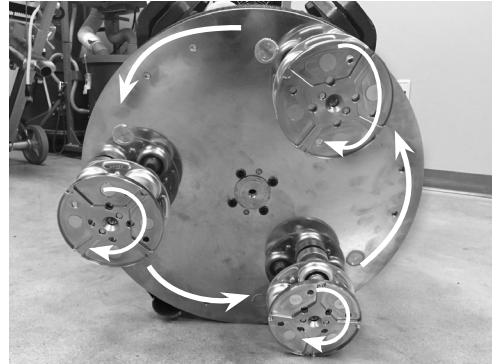

FIG. 6
- With the grinder switch in "forward," the tooling should turn clockwise and the drum should turn opposite (Figure 6).